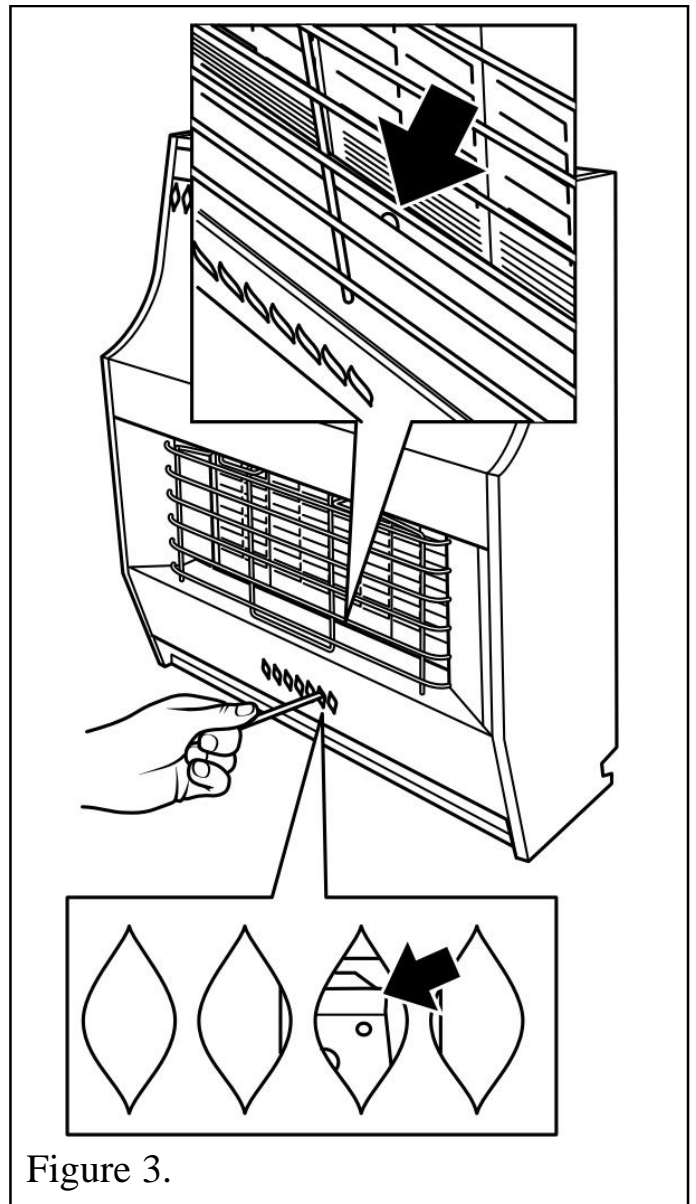

Figure 3.
- Depress the control knob slightly and turn anticlockwise towards the 1/IGN position. Do not apply too much pressure as this will cause resistance to be felt. Depress the control knob. Sparks should be generated at the pilot. The sparks should ignite the pilot. If the pilot does not light, turn the control knob back to the 'OFF' position and try again. The pilot flame can be seen through the opening immediately below the right hand centre radiant (See figure 3).
Depress the control knob slightly and turn anticlockwise towards the 1/IGN position. While keeping the knob depressed, light the pilot by inserting a long match or taper into the opening as in figure 3.